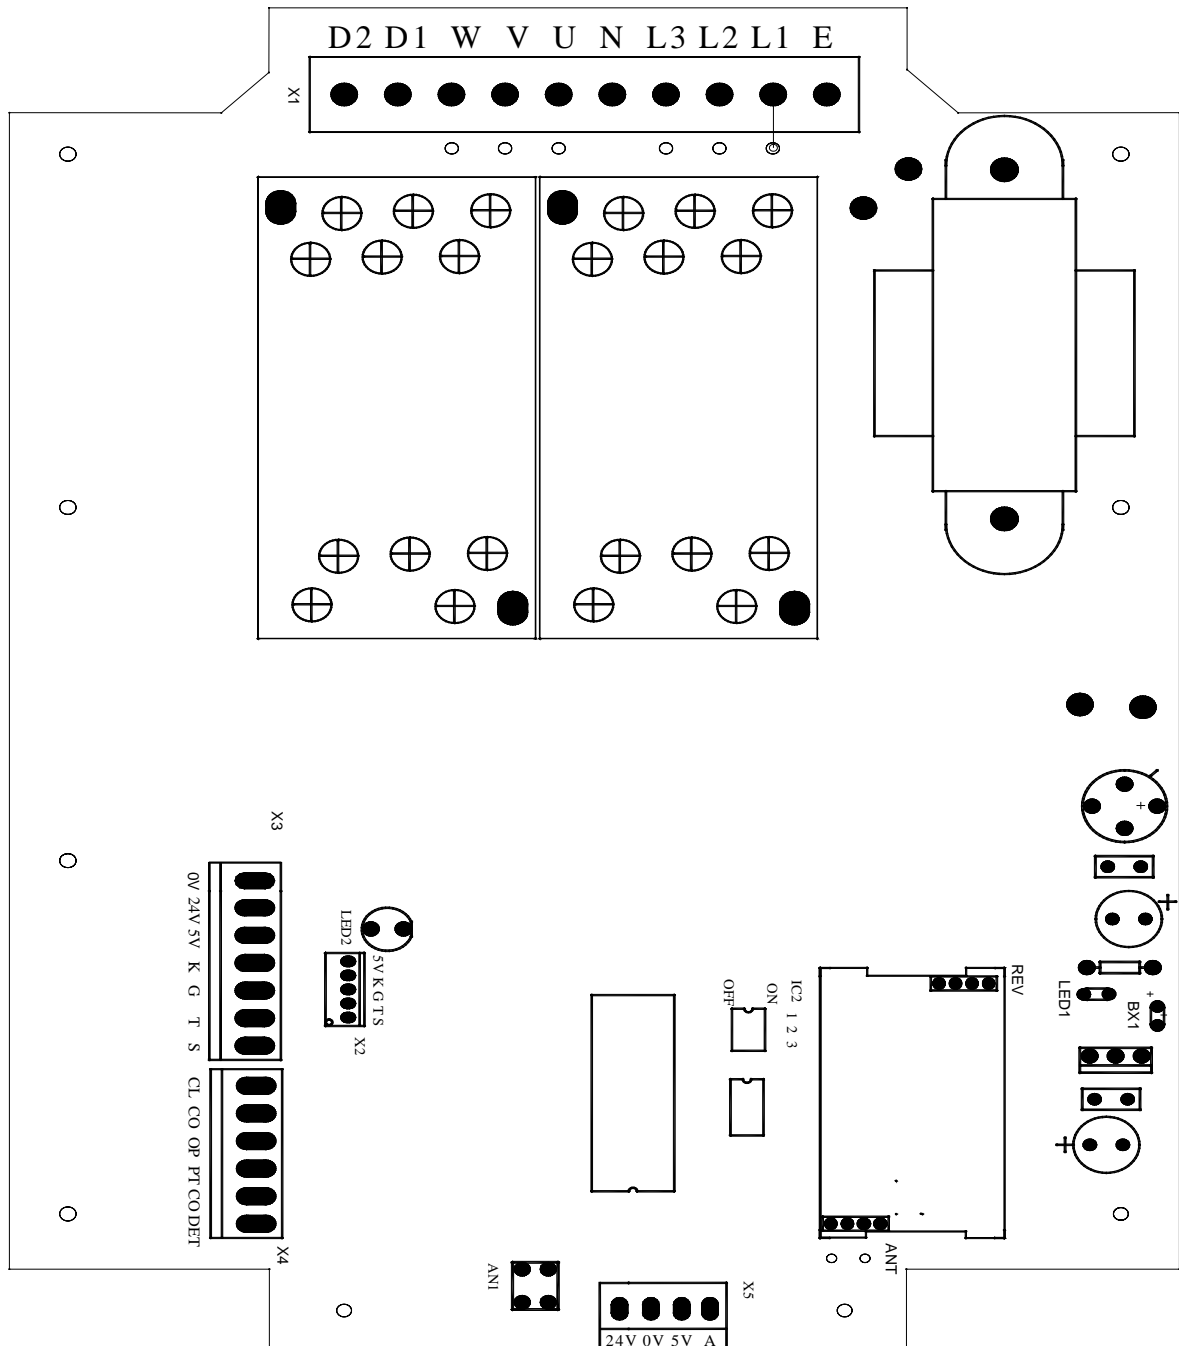

Fig.2
- Connect input power (380V) to 'L1', 'L2', 'L3'. Connect neutral wire to 'N', connect ground wire to 'E'. Connect motor wire to 'U', 'V', 'W'. If gate running direction is wrong, please exchange wires 'U' and 'V'. (See Fig.2 X1 terminal block)
- Connect close limit wire to 'CL', connect common wire to 'CO', connect open limit wire to 'OP'. (See Fig.2 X4 terminal block)
- Connect signal wires of photocell (NO.) to 'PT' and 'CO' and power wires to '24V' and '0V'. Connect safety edge switch wires to 'PT' and 'CO'. Connect wicket-door switch (N.C.) wires to 'DET' and 'CO', if connected, the short circuit bridge must be removed. (See Fig.2 X3, X4 terminal block)
- Connect external button switch (NO.) to 'K', 'G', 'T' and 'S'. K-open, G-close, T-stop, S-common wire. (See Fig.2 X3 terminal block)